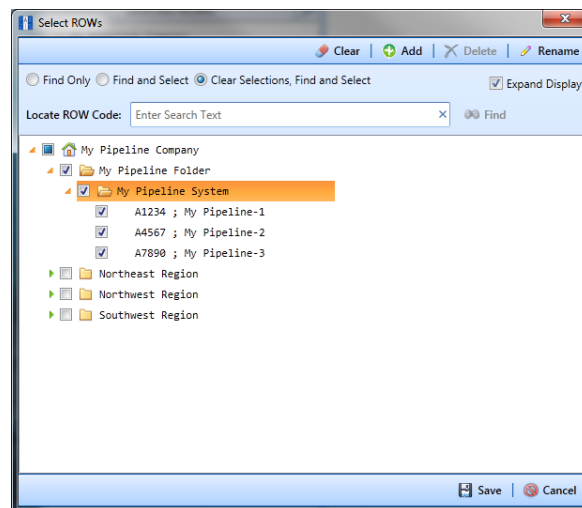

Figure 3-9. Select ROWs
- 1 Click **File > Select ROWs** to open the *Select ROWs* window (Figure 3-9).